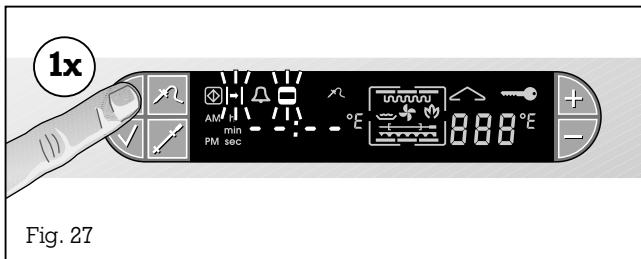

Fig. 27
- Press the ⌚ (Timer) key once. The ⏱ (Duration) symbol and the 🍲 (Cooking time) symbol flash on the display. Dashes appear on the display (i.e. no value programmed) (Fig. 27).